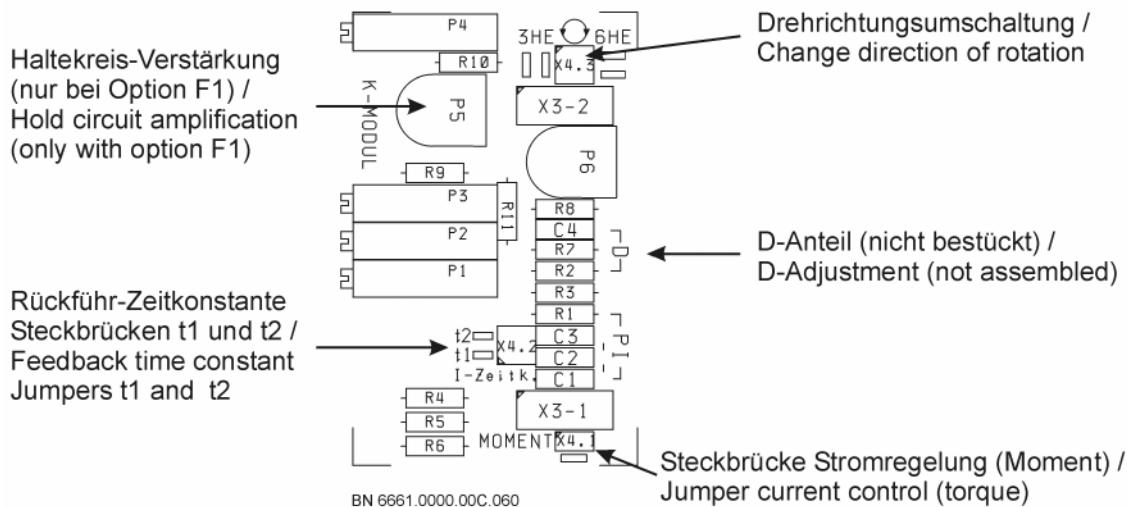

Fig. 12: Location of the jumpers on the customer module
- Figure 12 shows the location of the jumper.
Figure 12 shows the location of the jumpers. The following applies:
If a D circuitry is to be connected to the speed feedback (PID controller), the components C 2 and R 10 must be installed on the customer module. Their locations are printed on the board (see fig. 12). The values must be determined by experiment. 100 nF and 100 k $\Omega$  can be regarded as guide values.